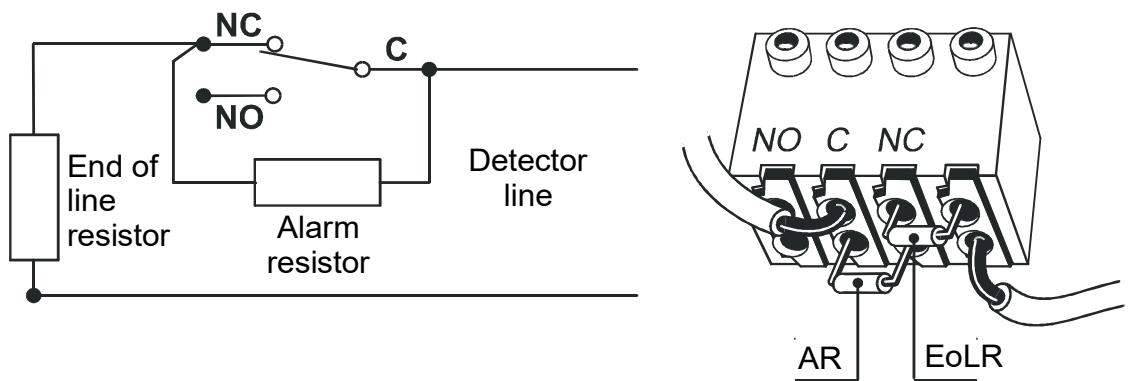

Fig. 4b
An exemplary connection of the last detector into a detecting line of a burglar alarm control system – in a voltage (O) operation mode and with power supply on – is shown on Fig. 4b.